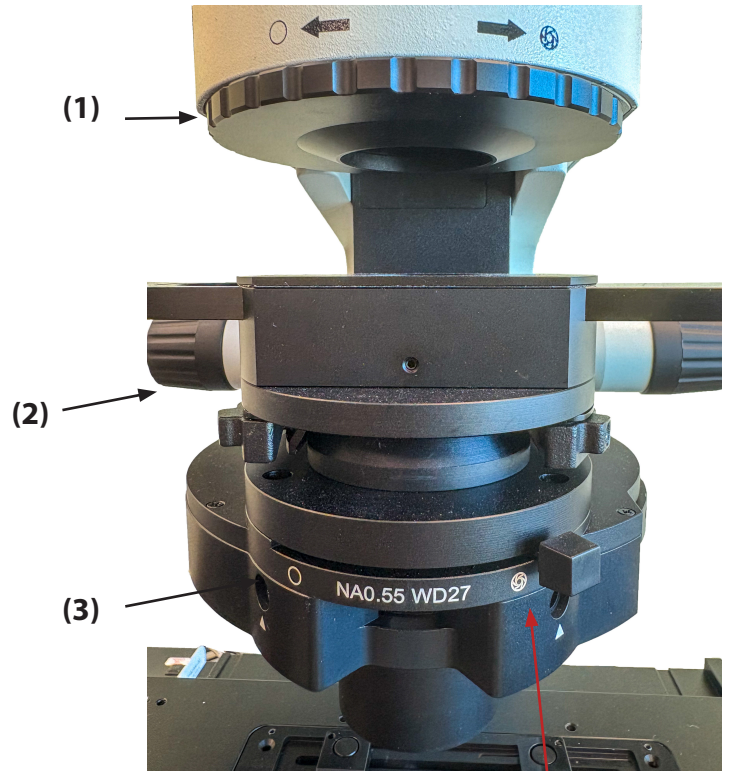

Figure 20
(Figure 20)
## Adjusting the Aperture Diaphragm (Figure 20)
The aperture diaphragm on the condenser allows the user to control the numerical aperture of the microscope, which allows for better resolution and contrast and increased depth of field while looking at images. The condenser diaphragm should be adjusted according to the numerical aperture (NA) of the objective lens being used. In most cases, the condenser should be adjusted such that its NA is 70%-80% of that of the objective lens being used. To adjust the aperture diaphragm, move the dial (4) in Figure 20 to the right to close or to the left to open.